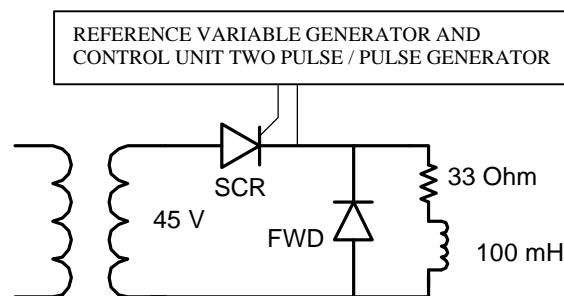

Figure 3
- iii) Place a Free-wheeling Diode (FWD) (module no. 735 02) across the R-L load as shown in Figure 3.